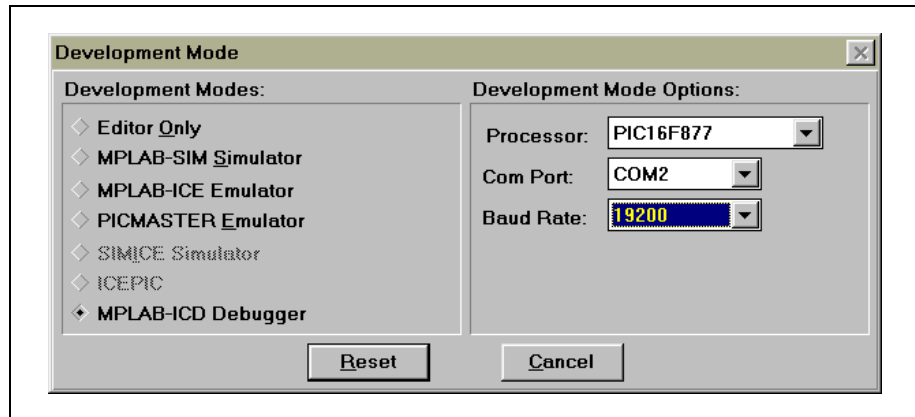

Figure 3.1: Development Mode Dialog Box
6. Select the *Options > Development Mode* menu item to open the Development Mode dialog (Figure 3.1).